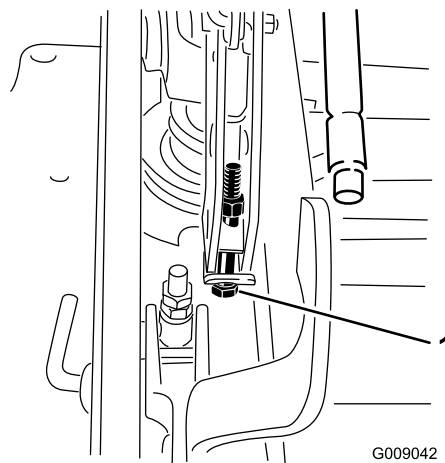

Figure 100
13. If the deck is too low, tighten the single-point-adjustment bolt by rotating it clockwise. If the deck is too high, loosen the single-point-adjustment bolt by rotating it counterclockwise (Figure 100).